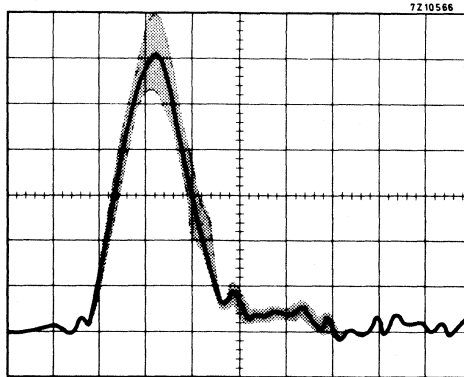

Fig. 3
- A slight decrease of the distance results in a light pulse with an FWHM of 0.75 ns, but the fluctuations in amplitude increase considerably (see Fig. 3).